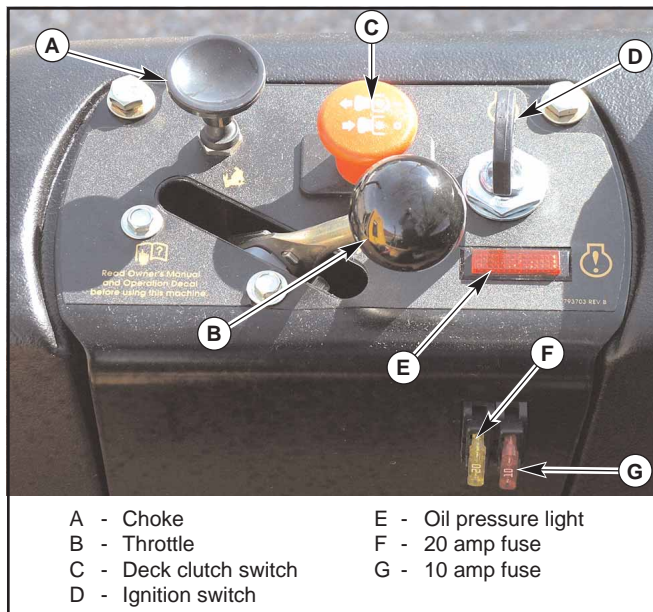

Figure 3-1
- A. Choke control (Fig. 3-1)** – a cable is linked to manually operate the engine choke. When the lever is in the down position, the choke is in the off (run) position. When the lever is pulled up, the choke is in the on (start) position. **Do not** operate the machine in the on (start) position.
- B. Throttle control (Fig. 3-1)** — a cable is linked to engine throttle for controlling engine speed. Move lever forward to increase engine rpm, move lever rearward to decrease engine rpm.
- C. Deck clutch switch (Fig. 3-1)** — this switch engages the deck. Pull the switch up to engage and push switch down to disengage the clutch.
- D. Ignition switch (Fig. 3-1)** – a three position switch: off, run, and start. With key inserted, rotate it clockwise to START position; release key when engine starts, and switch will automatically return to the RUN position.
- E. Oil pressure light (Fig. 3-1)** — this light comes on when the ignition switch is placed in the RUN position and stays lit until the engine is running and a safe oil pressure is developed. If light comes on during operation, shut engine off immediately and locate and correct the problem.
- F. 20 amp fuse (Fig. 3-1)** — Main - 20 amp, blade-type
- G. 10 amp fuse (Fig. 3-1)** — Clutch/Aux - 10 amp, blade-type